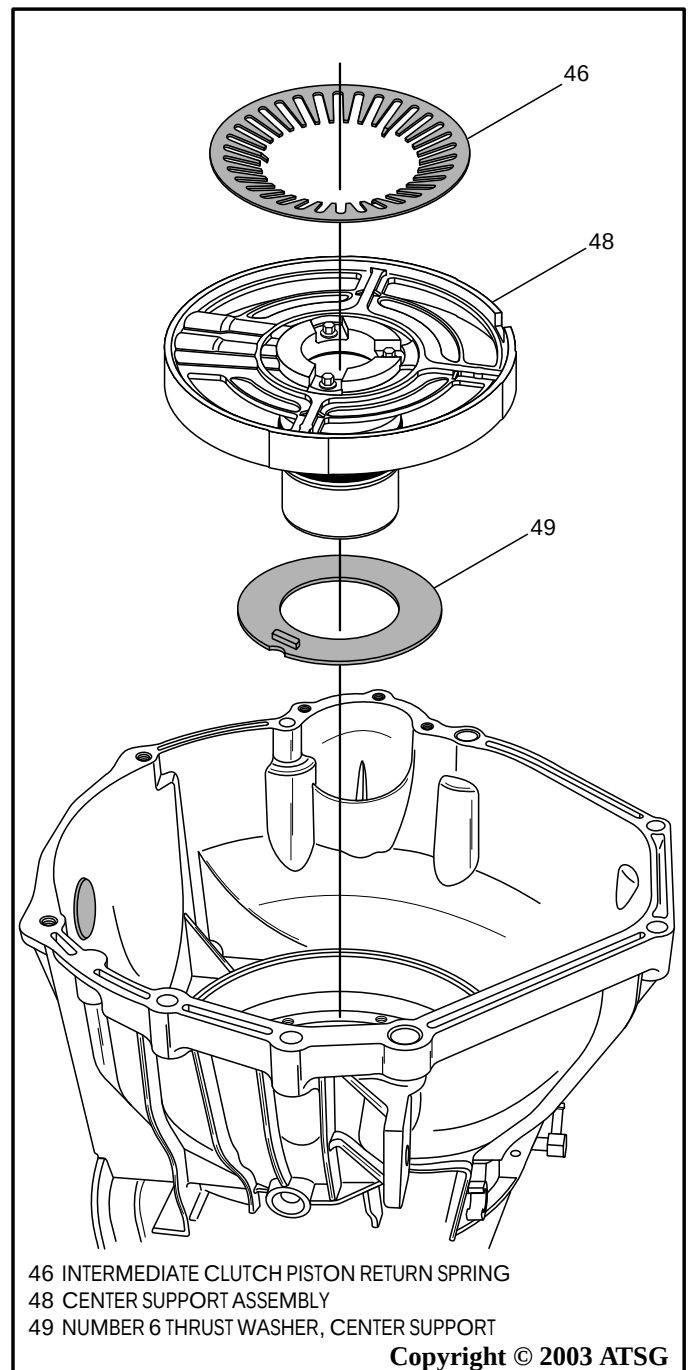

Figure 177
10. Install pre-assembled center support assembly, as shown in Figure 177, ensuring that the number 6 thrust washer is in place, and align the feed holes.
12. Install intermediate clutch piston return spring, as shown in Figure 177, with one spring tab at the 6 o'clock position.